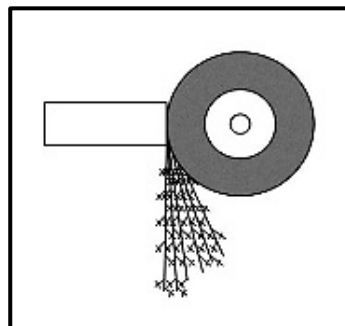

FIGURE 1.4
- 1.4 Identify the test shown in FIGURE 1.4 below.